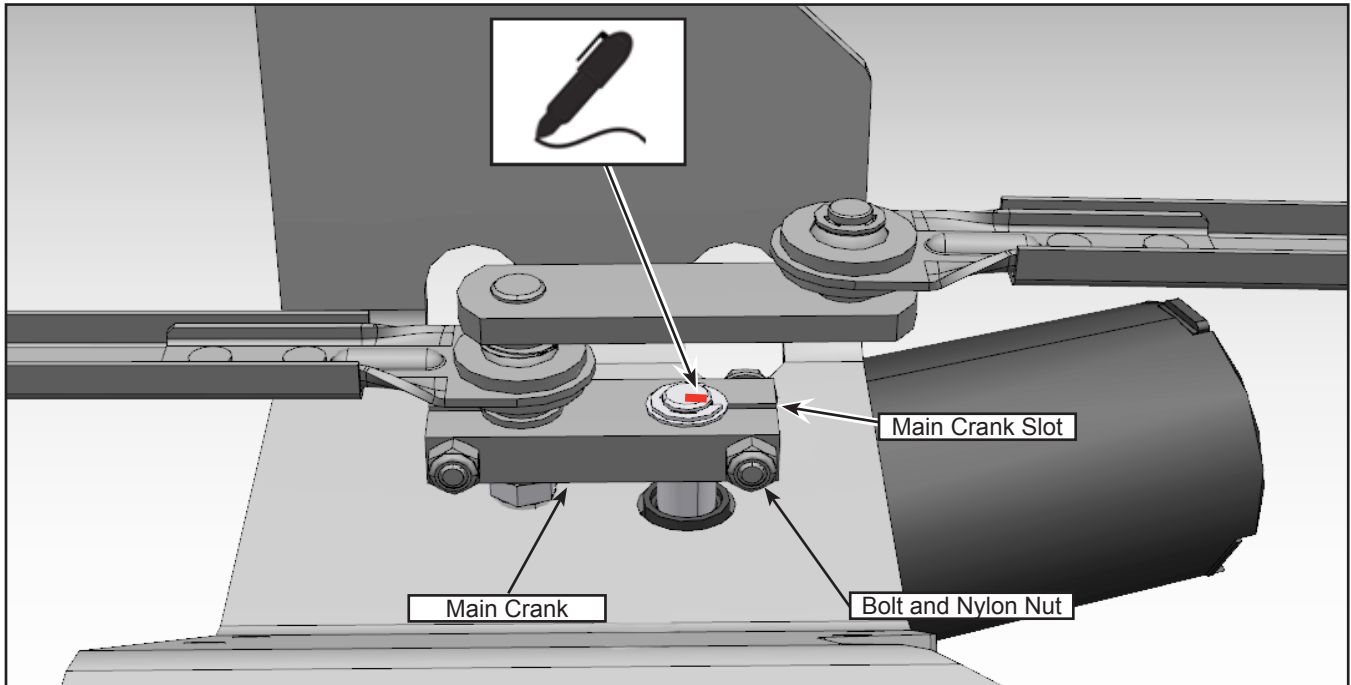

Figure 6 - Mark the Position on the Shaft and Remove the Main Crank
- 1.9. Remove the C-clip on the motor shaft. Make a mark on the motor shaft to identify the position of the slot of the main crank. See Figure 6.
- 1.10. Remove the bolt and nylon nut from the main crank. See Figure 6.